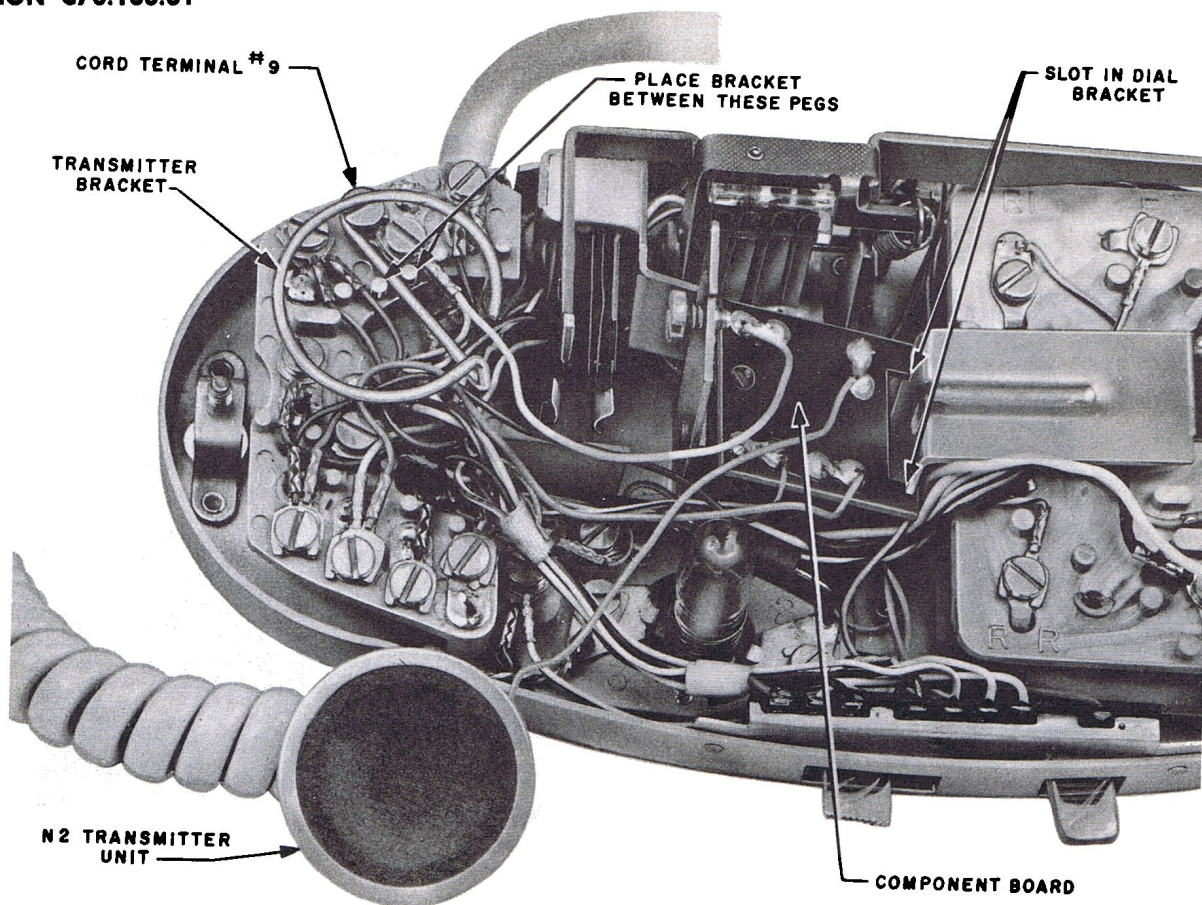
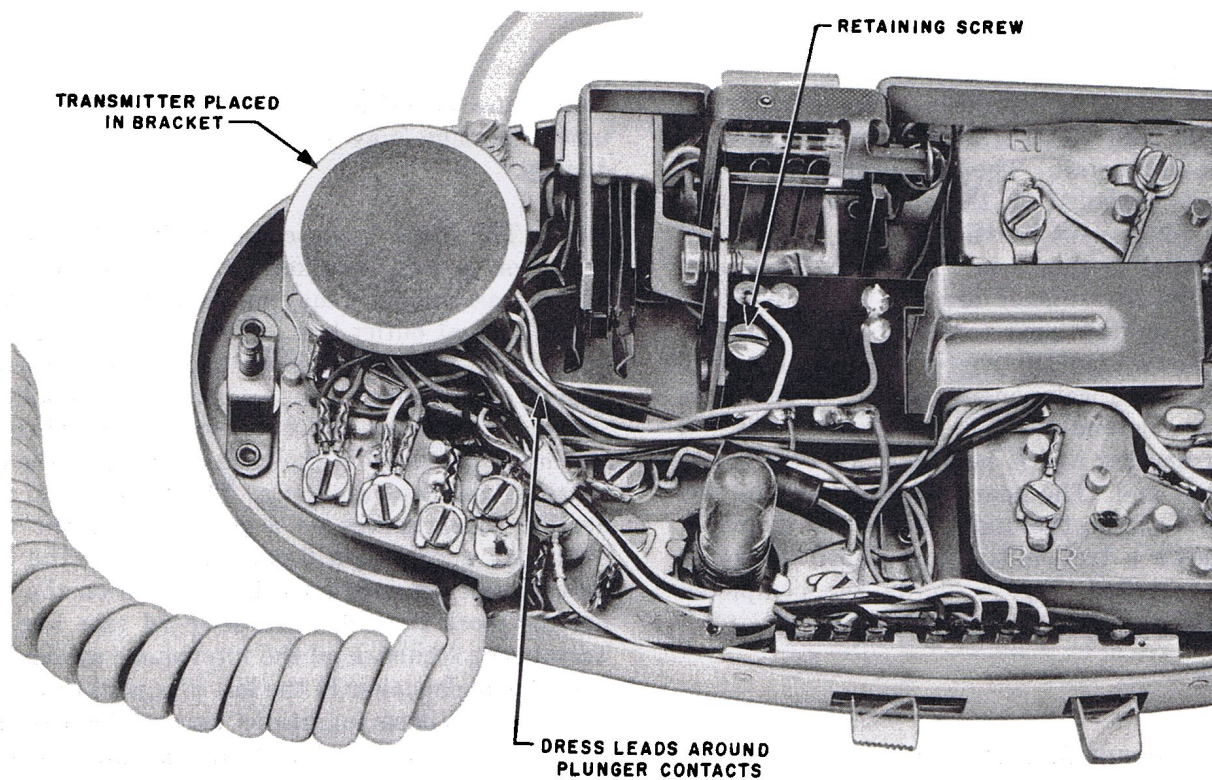

Fig. 4 — Location of 664A Transmitter Unit Components in 711B Telephone Set
Fig. 5 — Final Assembly of 664A Transmitter Unit in 711B Telephone Set
3.03 The 664A transmitter differs from the 659A and 660A transmitters in that it is not a one-piece unit. The transmitter unit and bracket are installed on the cord terminal strip while the component board assembly is installed under the dial as shown in Fig. 4 and 5. Be certain that the transmitter bracket is connected to terminal 9 on the cord terminal strip and lies between the two molded pegs of the terminal strip as shown. The component board assembly is notched on one end to fit in the slots of the dial mounting bracket and is held in place by a screw in the other end. The board is placed so that the components are on the under side when installed. Fig. 4 shows a transmitter and board assembly partially installed. Fig. 5 shows the completed installation.